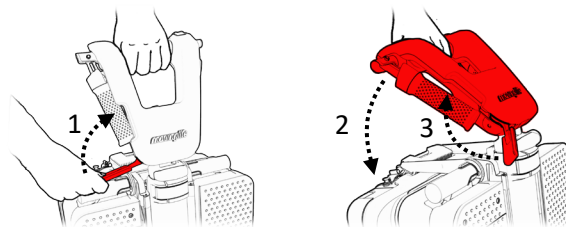

Figure 41
8. Release the adjustment lever of the handle bar (1) and bring the handle bar to a horizontal position (2). Then bring the lever back to secure position (3). (see Figure 41).